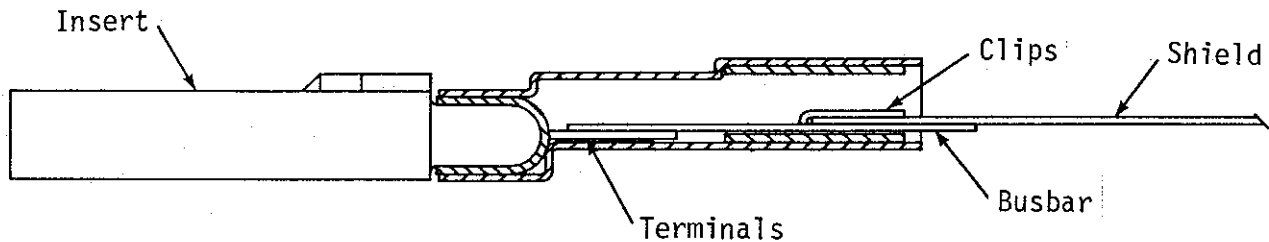

Figure 7. Shield/Busbar Assembly Inserted into Insert Boot Per Note "A"
1. Insert the shield/busbar assembly into the boot of connector insert A or B, as specified on the cable assembly drawing (Figure 7).